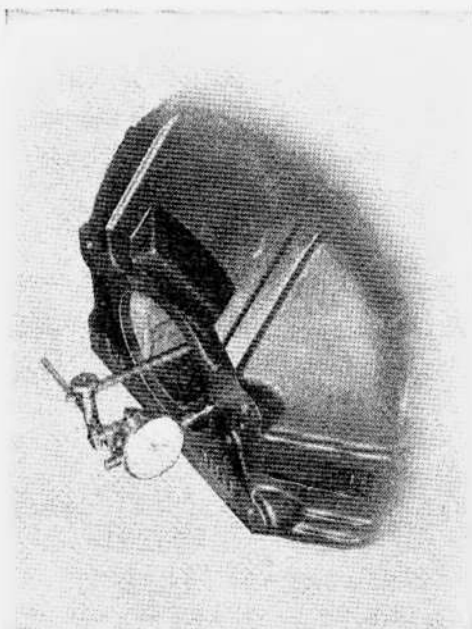

Figure 85 - Checking Face Parallelism
- (1) Alignment Check.
- (b) Indicate face of housing and take readings at the 9, 12 and 3 o'clock positions. The runout limit is 0.20 mm (Fig. 85).